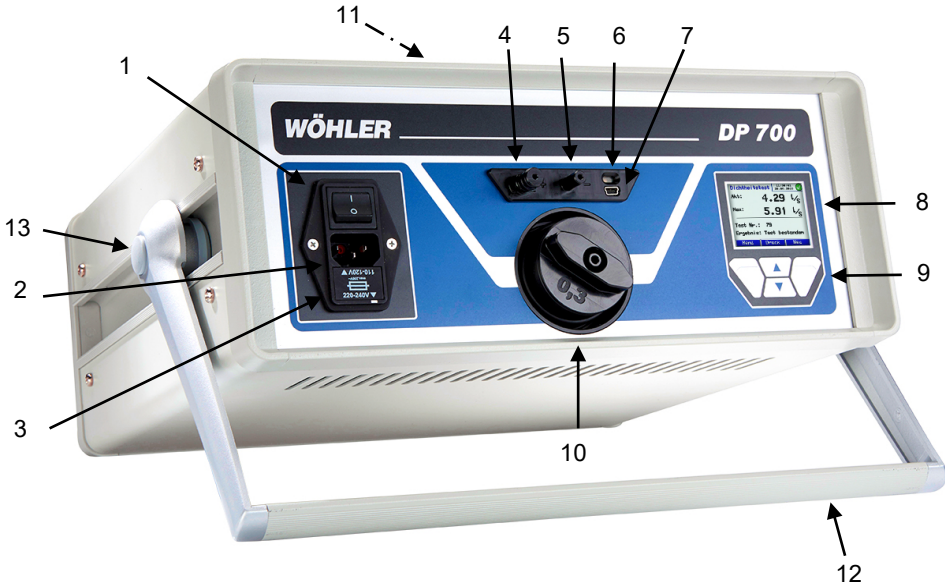

Fig. 1: Overview
- If the volume flow is < 0.3 l, insert the adapter 0.3 into the air connection (positive pressure) at the front of the meter (Fig. 1, part 10). Connect the air hose to the adapter.
The Wöhler DP 700 leakage tester can measure positive and negative pressure. To change from positive to negative pressure, only change the Ø 50 mm hose connection (see fig. 1, part 10 and 11) and select the test pressure (with negative sign "-" if applicable).